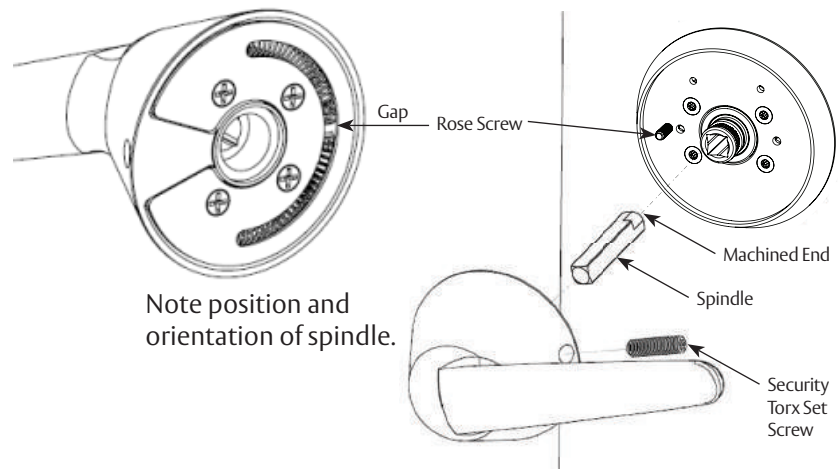

Figure 12
- Install inside Spindle. (Figure 12)
- Make sure machined end of spindle seats into clutch adapter before assembling lever onto rose. (Figure 12)